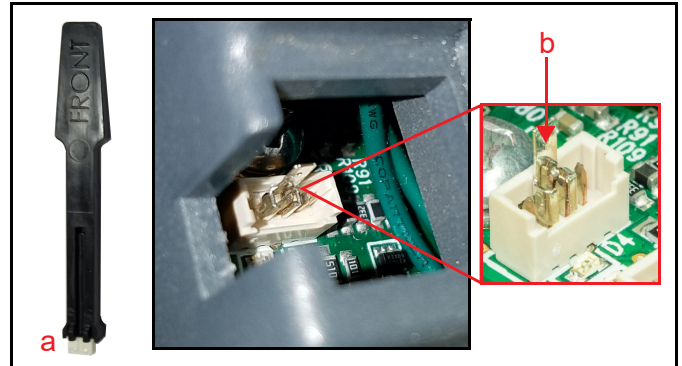

Figure 2 Upgrade Key (a) / GEN2U™ Printer Access Port w/ 4-pin Connector - Jumper on 2 Middle Pins (b)
**Answer:** The Upgrade Key (**Figure 2 a**) was only needed on a small number of early production GEN2U™ Printers. The GEN2U Printer has been discontinued and replaced by the GEN5™ Series Printer (PSA-66-ST5).
As part of the GEN2U Printer product phase-out, the Upgrade Key is no longer available. An alternative solution is to use a metal jumper (**Figure 2 b**) to connect the two (2) middle Pins on the 4-Pin connector of the GEN2U Printer, if necessary.
2. Apply a suitable jumper to connect the two (2) middle pins on the 4-pin connector (**Figure 2 b**) together. The jumper can be left on the pins for future use. Normal printer operation is not affected.